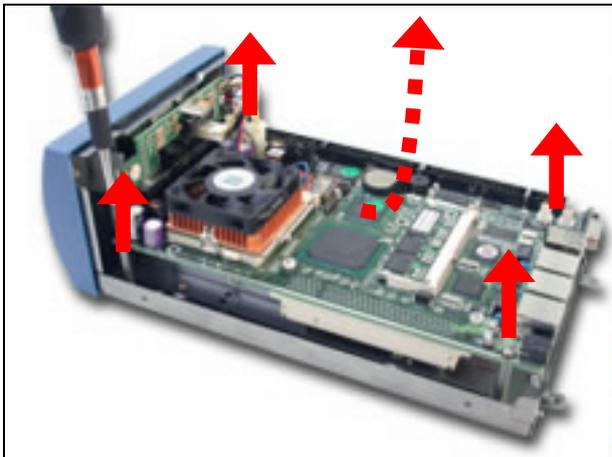
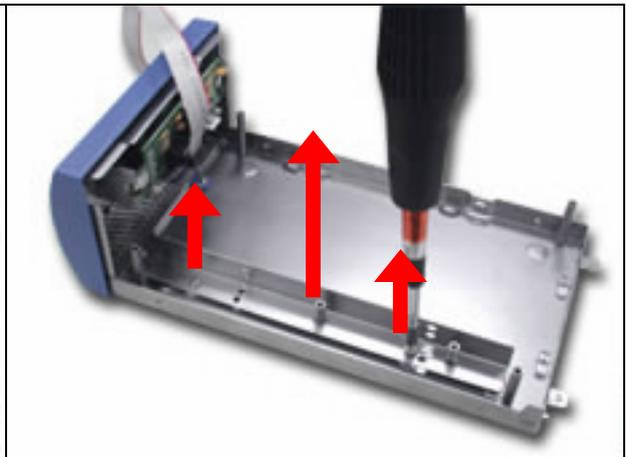

*Fig. 2-22 Remove the COM port cable*
*Fig. 2-23 Remove power connector from EZIO*
1. Remove EZIO COM port cable (*Fig. 2-22*) and the power connector from EZIO (*Fig. 2-23*).